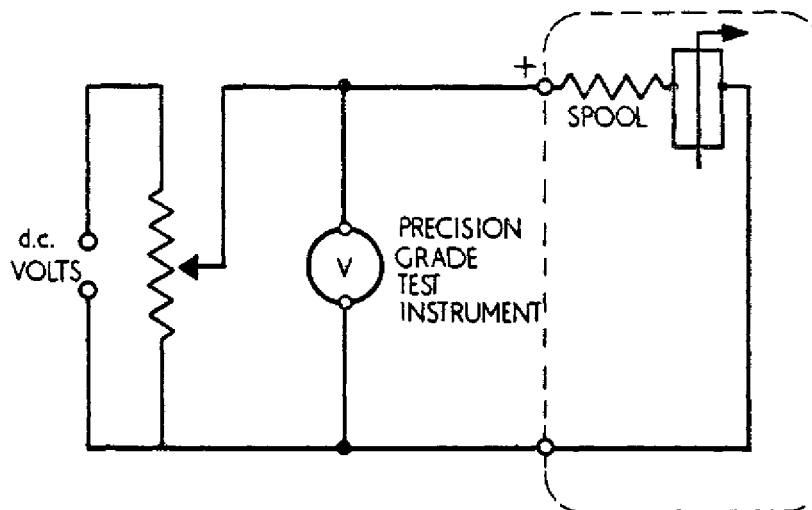

Fig. 3 Test circuit for d.c. Voltmeter
B. Voltmeters and Millivoltmeters. Refer to Figs. 3, 3A and 3B.
- (1) Connect the indicator to the circuit.